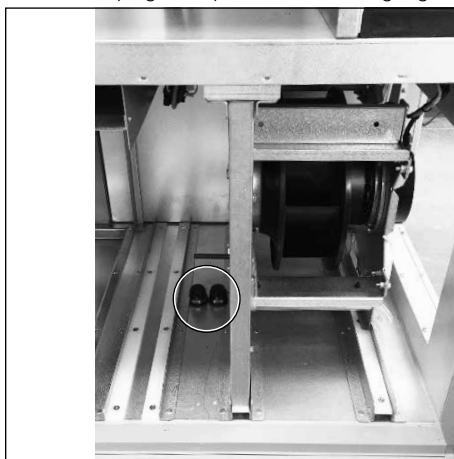

Fig.11
2. Remove plugs and position the heating register (see Fig.11).